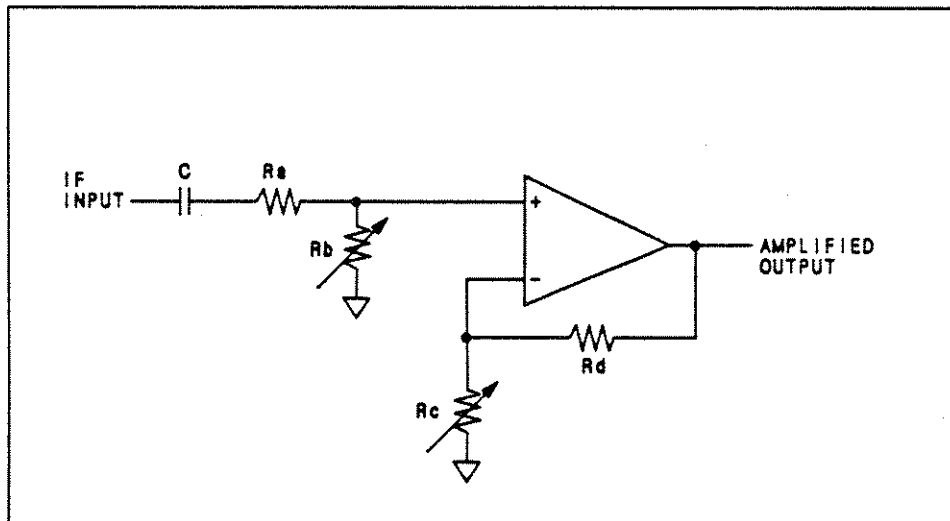

Figure 8-44. Simplified Diagram of the Voltage-Variable Amplifier
**Voltage Variable Amplifier.** The Voltage-Variable Amplifier adjusts its gain in response to the dc output from the AM and Level Detector. The amplifier is, then, the "leveler" of the ALC loop and, as shown in Figure 8-44, it is an ac-coupled, variable-gain, non-inverting operational amplifier.